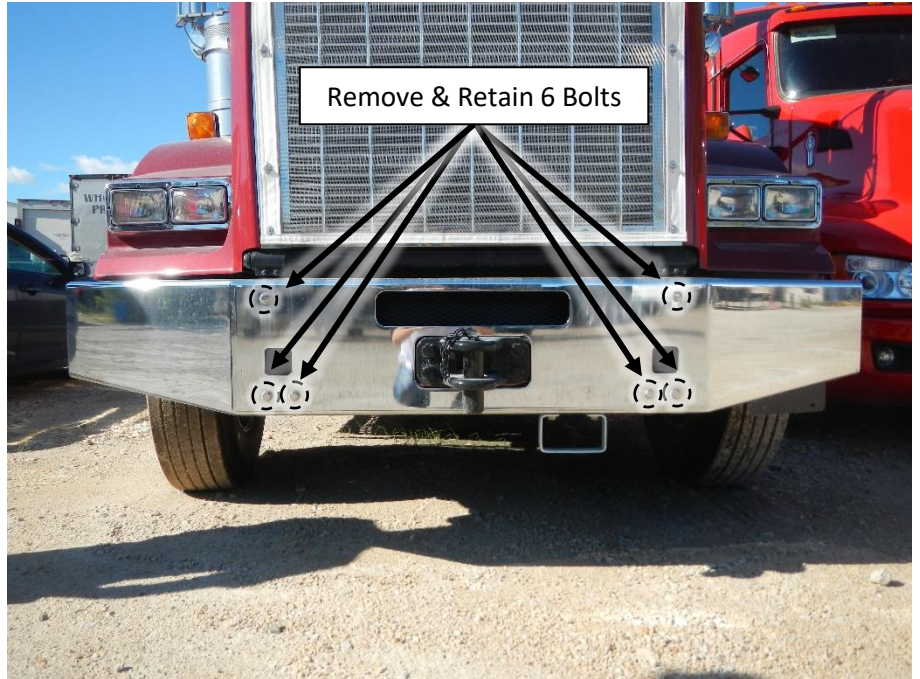

Figure 3 – OEM Bumper Removal Front View (6 bolt mounting pattern)
1. Remove the 6 OEM bolts on the front of the OEM bumper as shown in Figure 3. Retain factory hardware for use with mounting bracket in step 4 (a). Disconnect OEM driving lights if applicable.